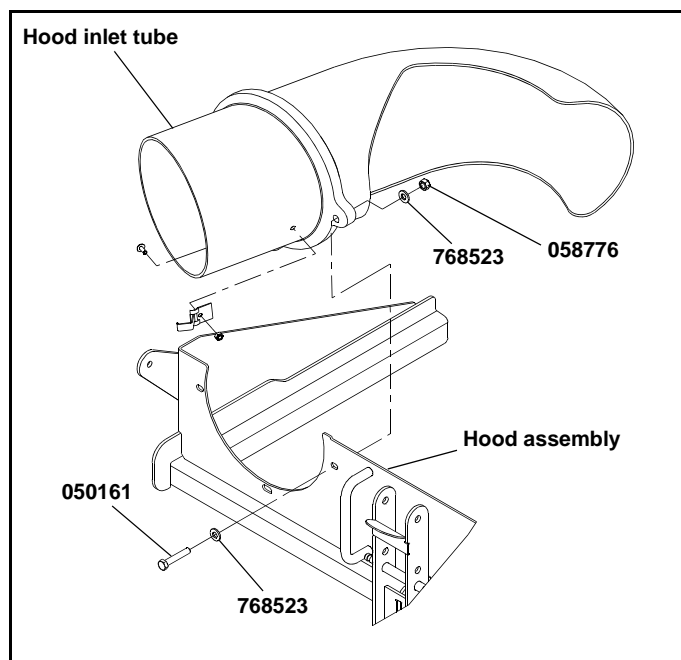

Figure 3-8
1. Insert the hood inlet tube into the opening in the hood assembly and bolt in place. Make sure the tube is orientated per the illustration. Figure 3-8